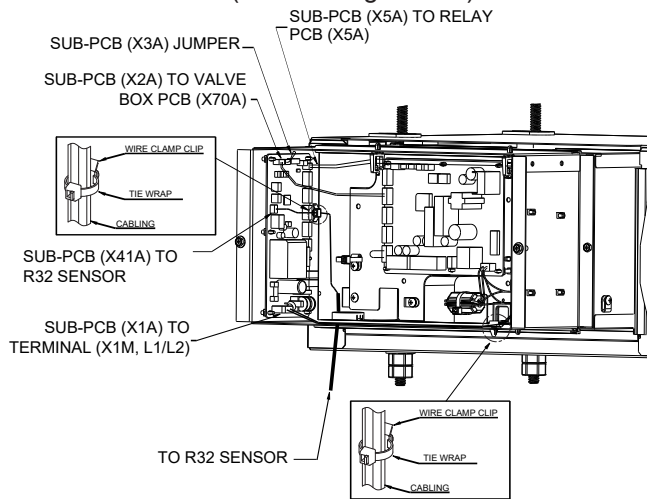

**FIGURE N.3**
1. Locate the Power Supply Harness connected to X1A on the Sub-PCB. (Refer to Figure N.3)